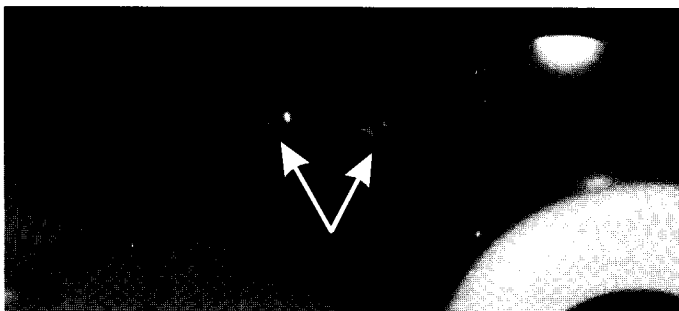

Figure 8
- 6. Remove the two (2) screws that secure the existing heating element in place. Figure 8.